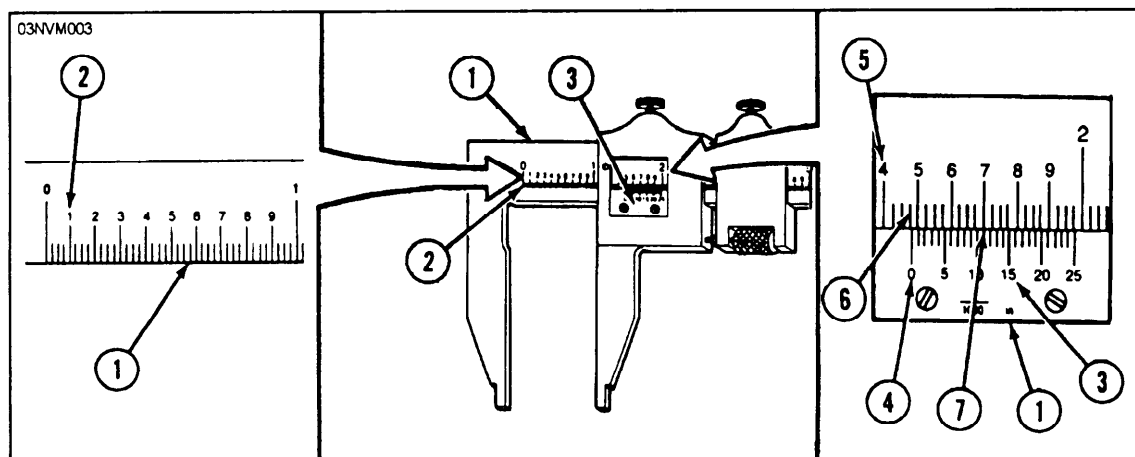

Figure 5-3.—Reading a vernier caliper.
dial caliper (refer to fig. 5-3). The main frame scale (1) is graduated in 0.025 thousandths of an inch. Every fourth division (2) (representing a tenth of an inch) is numbered. The vernier scale (3) on the movable jaw, is divided into 25 parts and numbered 0, 5, 10, 15, 20, and 25. These 25 parts are equal to 24 parts on the main frame scale (1). The difference between the width of one of the 25 spaces on the vernier scale (3) and one of the 24 spaces on the main frame scale (1) is 1/1000 of an inch.
There are five steps to reading the vernier caliper as shown in figure 5-3. They are as follows: